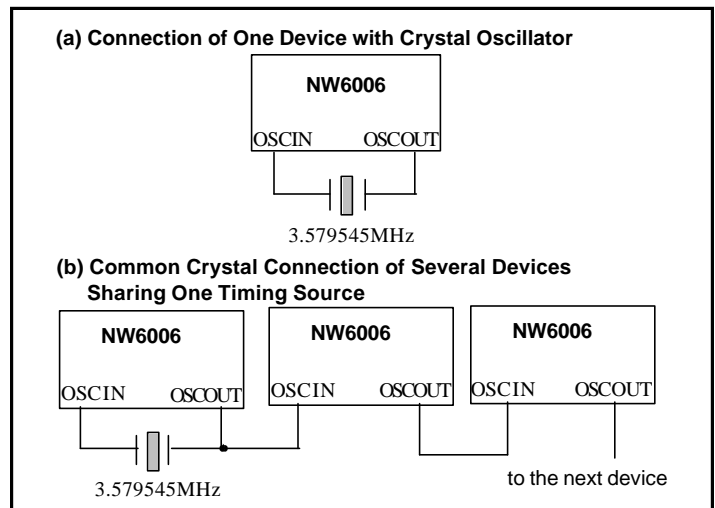

Figure 8. Application of Clock Driven Circuit
A 3.579545 MHz crystal oscillator or other external clock source is required for NW6005. The crystal can be directly connected between OSCIN and OSCOUT pins without any external component. If an external clock source is used, OSCIN pin should be driven by the clock source and OSCOUT pin is left floating or is used to drive other devices. Fig. 8 shows some applications.
- 2) By choosing $t_{GA} = 15 \text{ ms}$, t_{ABS} will be 15-25 ms (refer to Fig. 8). Current wetting pulse and AC/DC load should be applied right after the $\overline{\text{STD}}$ rising edge.